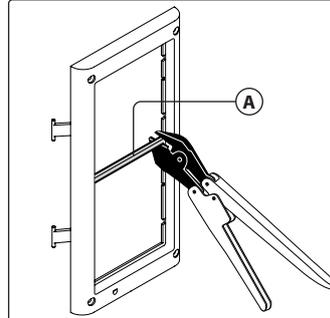

Fig. 11
- In order to proceed with the panel installation with Art. 4852 or Art. 4882, remove the cross bar **(A)** from the support frame as shown in **Fig. 11**.